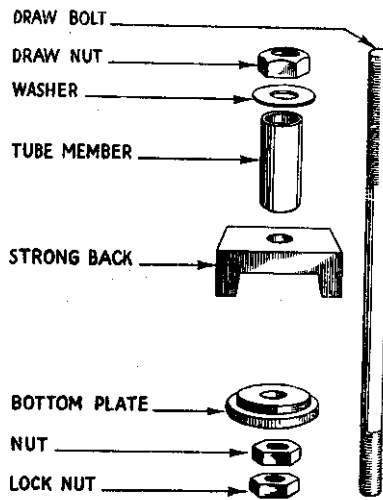

Fig. 3
- iii. Assemble withdrawing gear as shown in Fig. 3, taking care to enter spigot of bottom plate into the liner at the bottom and that the sides of the bridge piece are clear of the liner at the top.